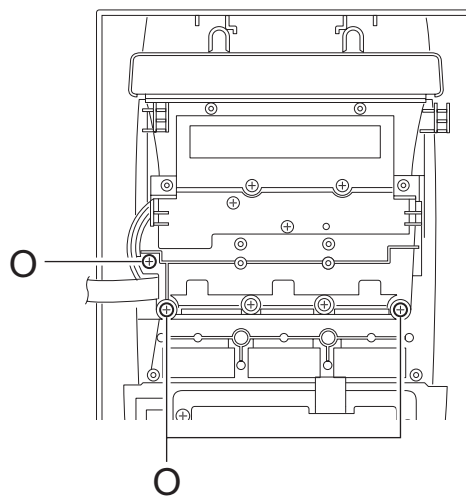

Fig.19
- (1) Remove the four screws **N** attaching the LCD board assembly.
2.1.13 Removing the control panel assembly (See Fig.19,20)